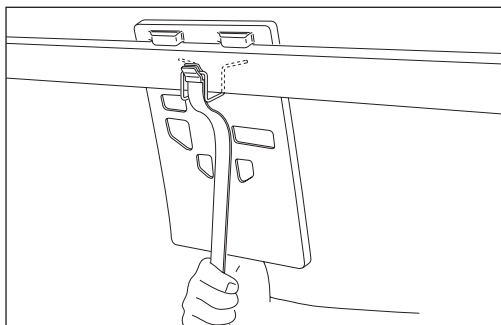

Fig 31 – Attach tool to clip
- Insert clip into tile firmly and attach tool to clip (Fig 31).